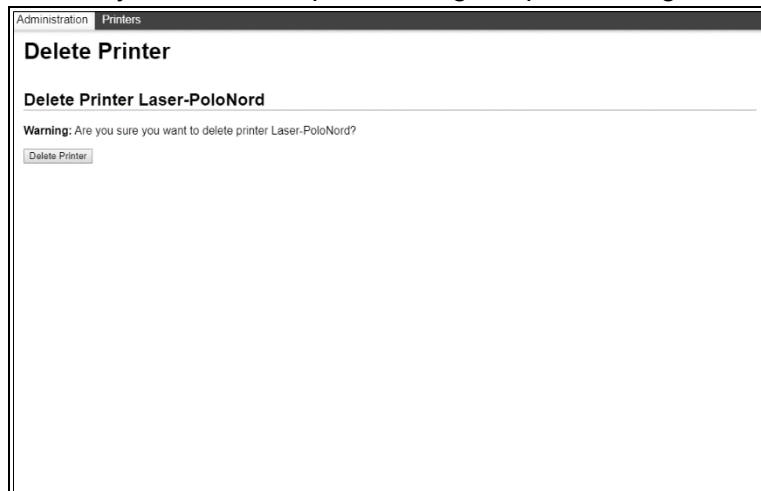

Fig. 133 – “Delete Printer” panel
- The printer can be deleted, after confirmation (Fig. 133)